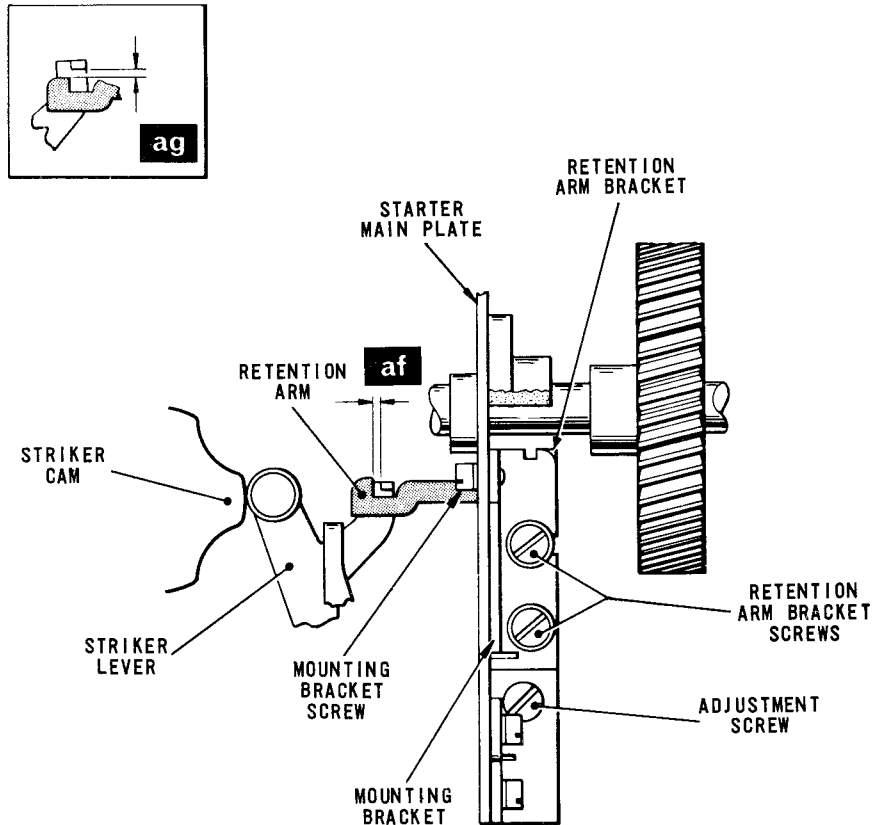
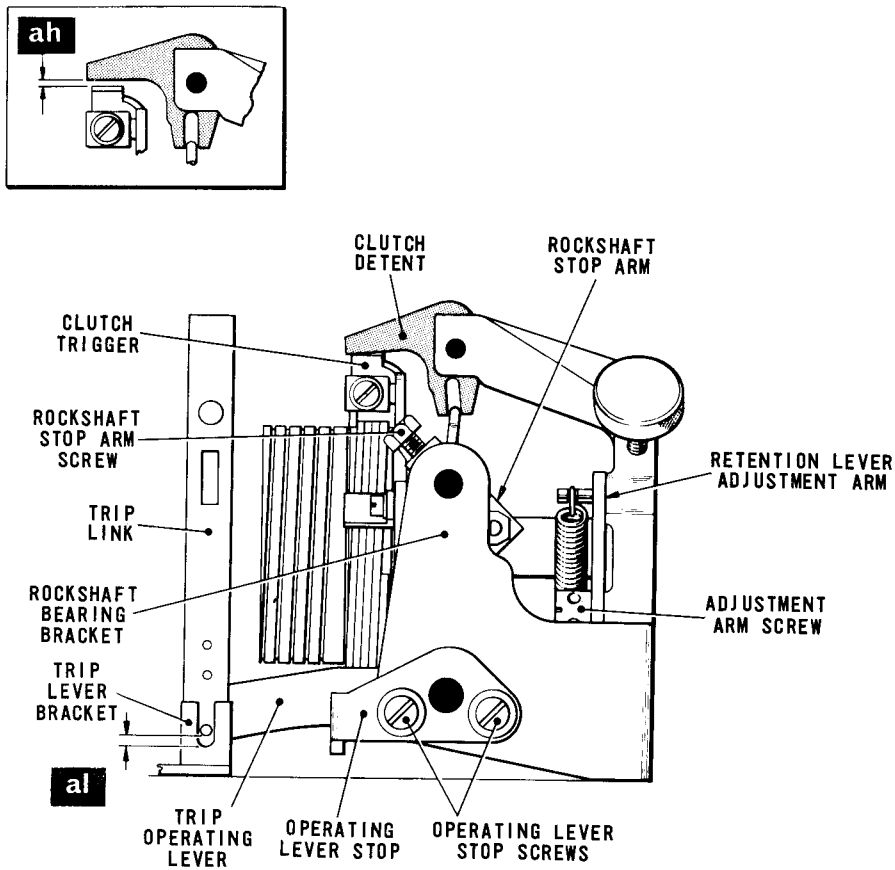
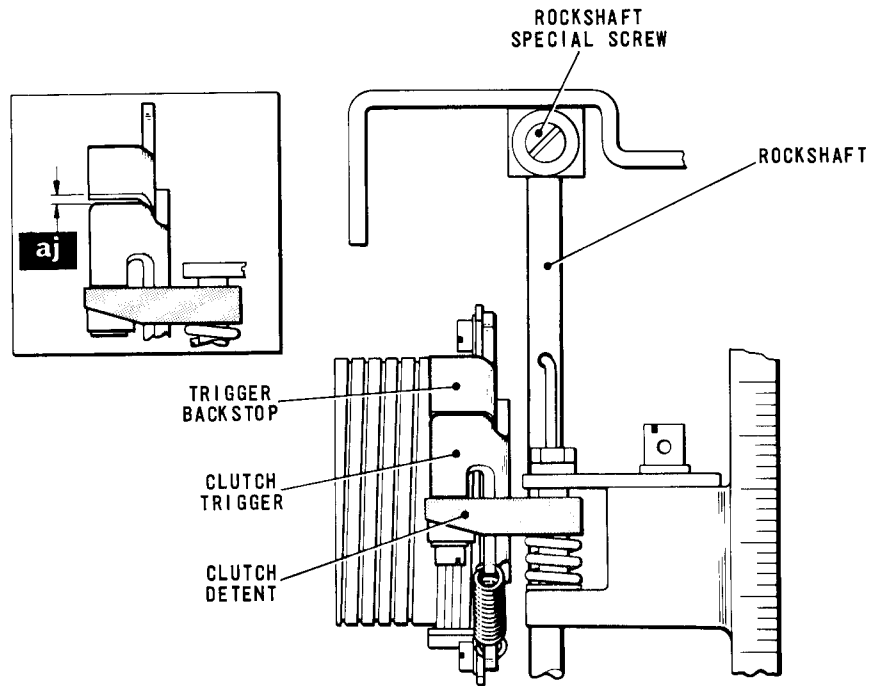
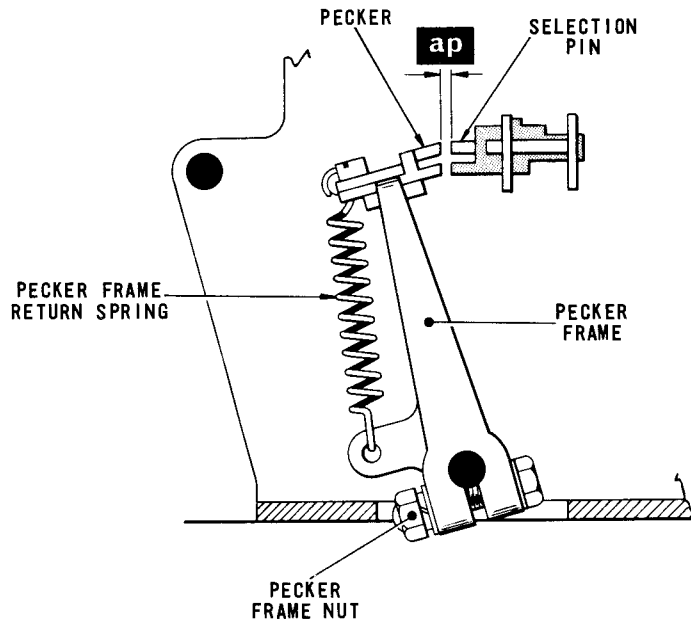

Fig. 4.27 PECKER RETENTION ARM MECHANISM—REAR VIEW
Fig. 4.28 SELECTOR CLUTCH TRIGGER MECHANISM—SIDE VIEW
Fig. 4.29 SELECTOR CLUTCH TRIGGER MECHANISM—PLAN VIEW
Fig. 4.33 PECKER/SELECTION PIN CLEARANCE
- 30.1 Move the electromagnet armature to the space position so that the selector clutch detent, Fig.4.28, is released. Turn the machine by hand until the striker lever, Fig.4.27, is on one of the high points of the striker cam. Check that there is now a horizontal clearance of .005 - .010 in. (dimension 'af') between the hook on the retention arm and the engagement face of the striker lever.
- 31.1 With the machine in the rest position and the selector clutch trigger, Fig.4.28, held against the clutch detent, move the electromagnet armature to the space position so that the detent is released. Maintaining light pressure on the detent to take up any backlash present, check that there is now a vertical clearance of .005 - .010 in. (dimension 'ah' - inset) between the clutch trigger and the detent.
31.2 To adjust, slacken the rockshaft special screw, Fig.4.29, and, ensuring that the electromagnet armature remains at space, reposition the detent until dimension 'ah' is satisfied. Tighten the rockshaft screw.
32.1 With the electromagnet armature in the mark position, the retention lever roller located in its recess in the retention cam and the clutch trigger, Fig.4.29, held against the clutch detent, check that there is a clearance of .010 - .015 in. (dimension 'aj' - inset) between the trigger and its backstop.
32.2 If this is not so, slacken the capstan-headed screw securing the retention lever adjustment arm, Fig.4.28, and push the arm inwards so that the cam assembly moves clockwise and the trigger backstop, Fig.4.29, presses the trigger against the detent. Now gently move the cam assembly counter-clockwise until dimension 'aj' is set up and then tighten the adjustment arm screw, Fig.4.28.
- 34.1 Check that there is a maximum of .003 in. end-play in the rockshaft, Fig.4.29, and, with the electromagnet armature in the mark position, check that the pin on the rockshaft stop arm, Fig.4.28, is touching the edge of the rockshaft bearing bracket.
- 35.1 With the machine at rest, check that the trip operating lever, Fig.4.28, is against its stop and that there is a clearance of .003 - .010 in. (dimension 'al') between the pin on the trip link and the bottom of the slot in the trip lever bracket.
- 36.1 Lift the trip operating lever, Fig.4.28, so that the trip link passes over the abutment frame trip lever, Fig.4.3. Holding the operating lever, Fig.4.28, in this position, insert a .015 in. feeler gauge between the operating lever and the hook of the operating lever stop. Release the lever so that it moves down on to the gauge and check that the translator clutch abutment does not trip.
- 38.1 Trip the translator clutch by raising and then lowering the trip operating lever, Fig.4.28. Holding the trip operating lever fully down,
- 39.2 Move the electromagnet armature to space. Turn the machine by hand until the pecker, Fig.4.33, is opposite the first (inner) selection pin and the striker lever, Fig.4.27, is held away from the striker cam by the retention arm hook.
- 39.3 Lightly press the pecker, Fig.4.33, towards the selection pin to take up any play that may be present and check that there is a clearance of .030 - .045 in. (dimension 'ap') between the pecker and the pin.
- 39.5 If adjustment is necessary, remove the keyboard and stand the machine on its back. Disconnect the pecker frame return spring and slacken the nuts securing the pecker frame until friction tight. Ensure that the striker lever, Fig.4.27, is held by the retention arm hook and reposition the pecker frame, Fig.4.33, on its shaft until the correct clearance is present at both ends of the pecker traverse. Tighten the frame securing nuts, re-connect the pecker frame return spring and refit the keyboard.
- 40.1 Lift the selector clutch detent and then move the electromagnet armature to the mark position. Turn the machine slowly by hand and check that each selection pin, Fig.4.33, is struck by the pecker and that the area of contact between the pecker and the pins is as great as possible over the complete traverse. Repeat this check with the pin-box in its alternative position.